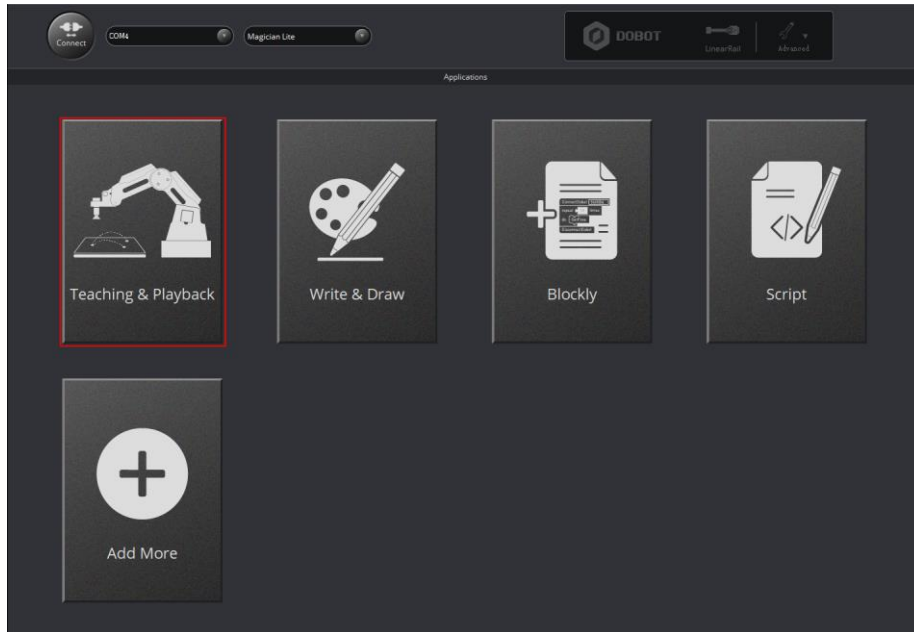

Figure 2.17 Click Teaching & Playback
1. Click **Teaching & Playback**, as shown in Figure 2.17.